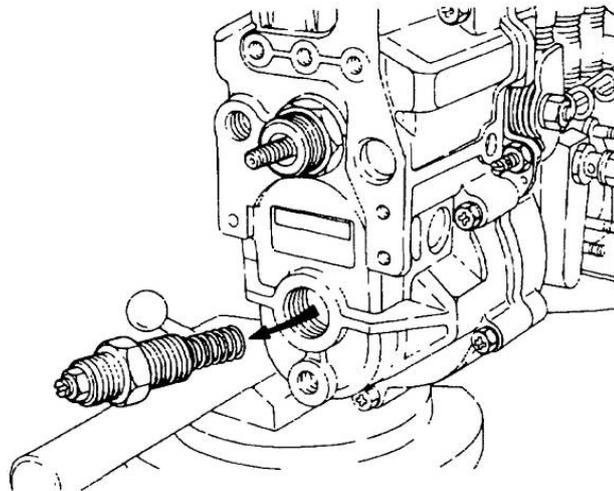

Figure 117 Installation of the Idling Spring Capsule
- v. Install the governor shaft guide screw complete with locknut. Install the idling spring capsule, together with the idling spring (Figure 117).